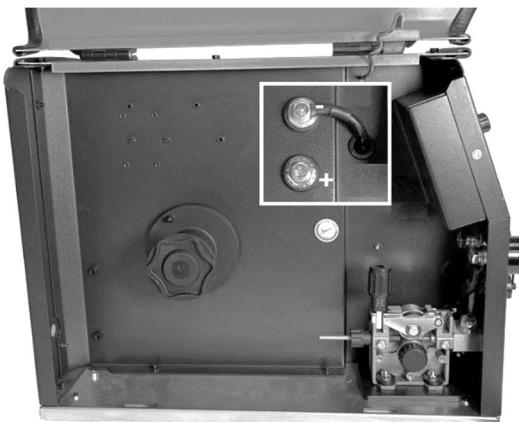

Fig. D2
- 3) Open the moving cover, (see Fig. D2) and move the change polarity cable, connecting it to the negative pole (-).